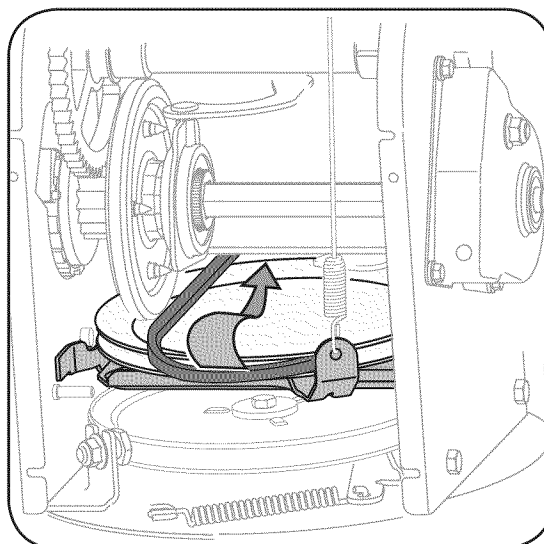

Figure 26
2. Slip the drive belt off the pulley and between friction wheel and friction wheel disc. See Figure 26.